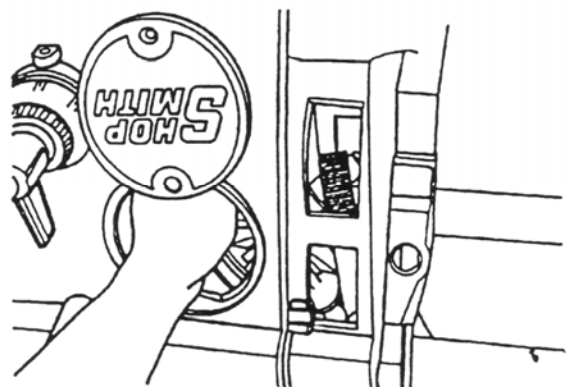

Fig. 16
6. Remove the Poly V-belt. Working through the service access hole and headstock openings, maneuver the upper sheaves back into the headstock. See Fig. 16. Remove the belt from the idler shaft when the shaft is free of the headstock. Let the shaft and sheaves sit on the motor until you're ready to install a new belt.